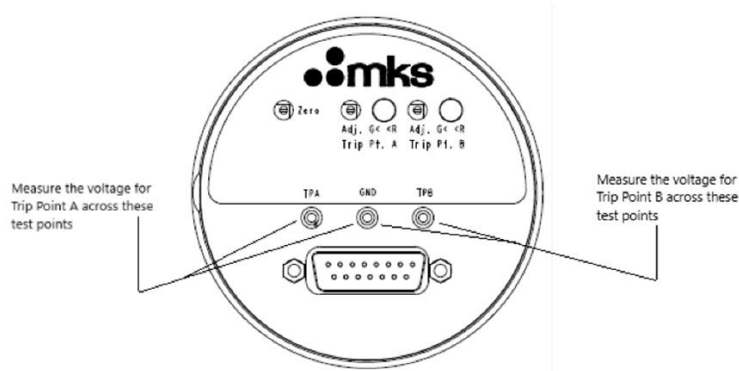

Figure 8: How To Measure the Trip Point Voltage
All pressure transducers require initial and periodic zero adjustments. Prior to initial operation and during periodic maintenance you must check the transducer zero to verify the proper output. The zero can be set (or reset) by adjusting the ZERO potentiometer, located on the transducer's endcap (refer to Figure 8, page 26). The transducer should be powered and allowed to warm up before using its pressure measurements.
4. Adjust the ZERO pot with a small flathead screwdriver until the readout displays zero (0000). The ZERO pot is located on the unit's endcap (refer to Figure 8, page 26).